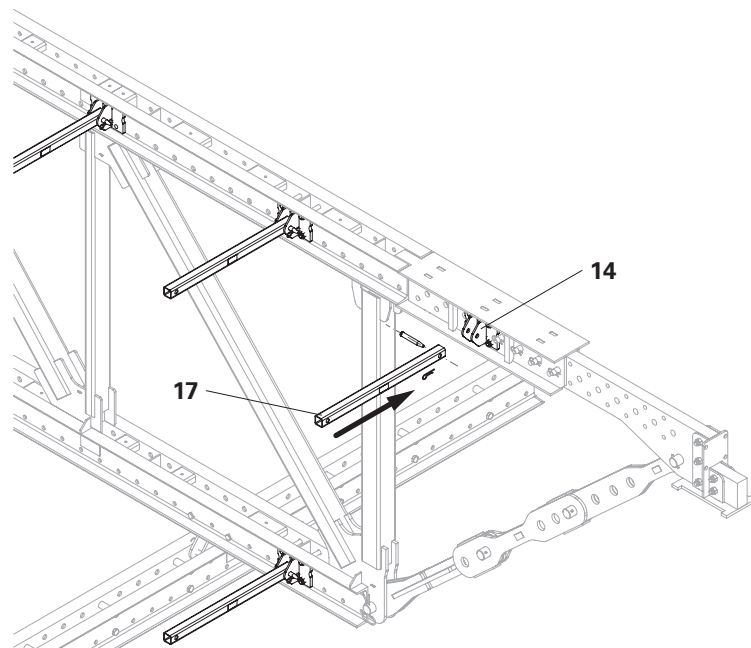

Fig. B3.05
- If a single truss or truss package is coupled to this single truss, the coupling posts (**17**) are mounted on the truss package. This facilitates on-site assembly of the packages. (Fig. B3.05)